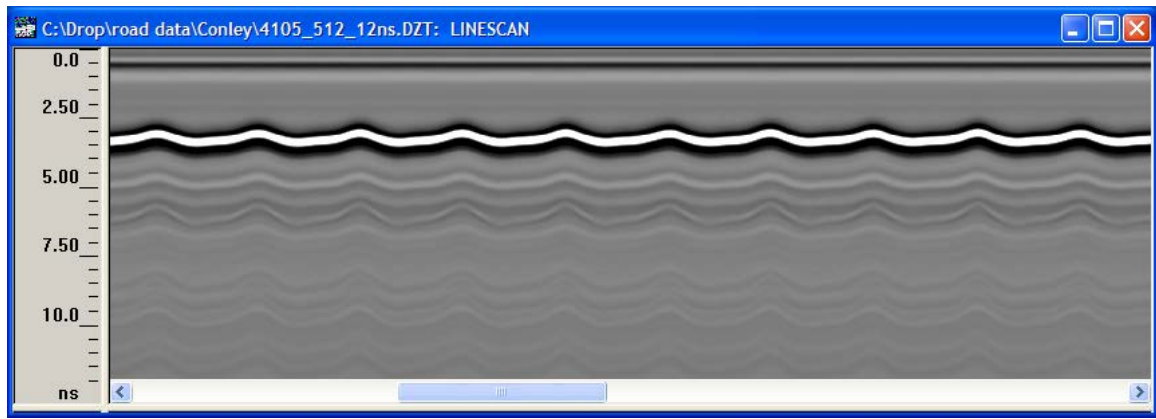

Figure 80: Raw calibration file obtained with Model 4105 2 GHz horn antenna.
- 5** Collect approximately 2 full screen widths of data before pressing the stop button. The output file, referred to as a *raw calibration file*, should look similar to the data file shown in Figure 80.